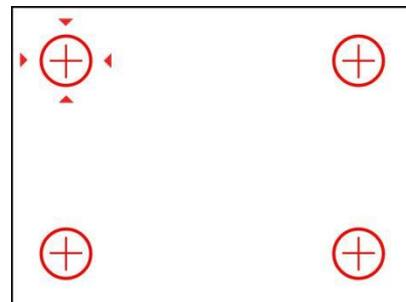

Figure 7-2
- For the interface shown in Figure 7-2, when the corresponding button is pressed, the red icon of the corresponding button will turn black, and then the red mark will point to the next button position. Press the four corresponding buttons in sequence to exit the anti-mis-touch interface. If the button icon at the corresponding position is still red after pressing the button, it means that the button at the wrong position is pressed.